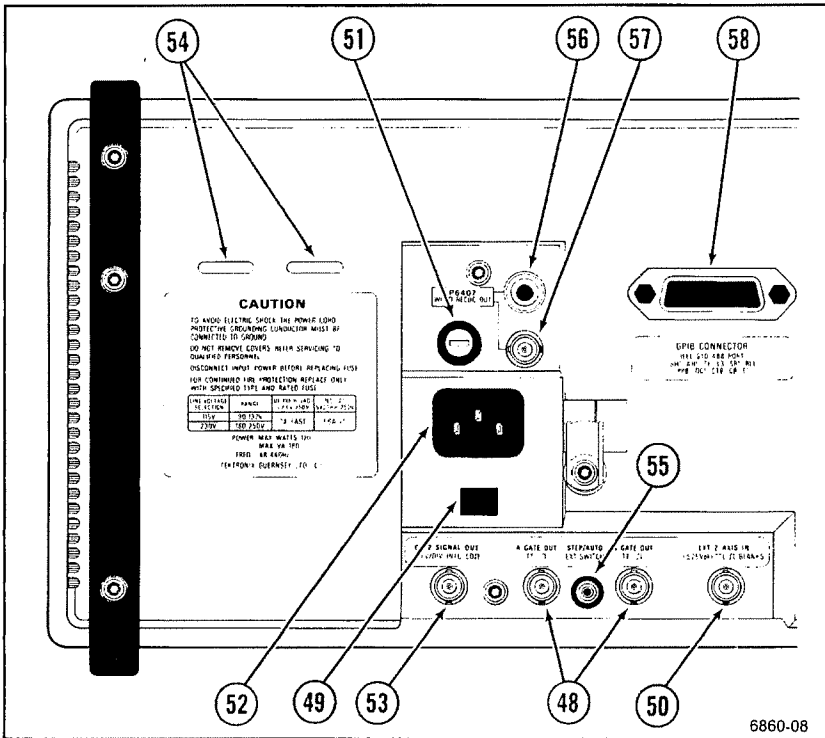

Figure 5-7. Rear panel controls and connectors.
Refer to Figure 5-7 for the location of items 48 through 58.